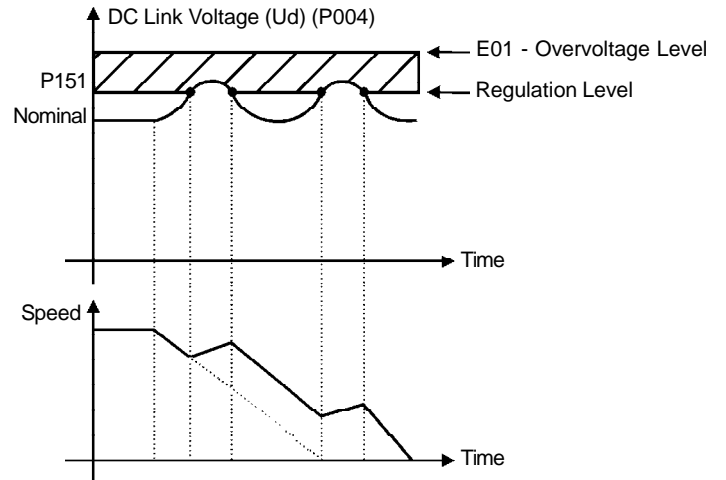

Figure 6.13 - Deceleration curve with DC Link voltage limitation (regulation)
- If even after these settings the motor cannot decelerate within the required deceleration time, use the dynamic braking. (For more details about the dynamic braking, refer to item 8.10).
**Type of DC Link Voltage Regulation when P152 > 0.00 and P151 are set different than the maximum value:** When the DC Link Voltage reaches the regulation level during the deceleration, the deceleration ramp time is increased and the motor is also accelerated until the DC Link voltage leaves the defined over-voltage level. There after deceleration is continued. Refer to figure 6.13.